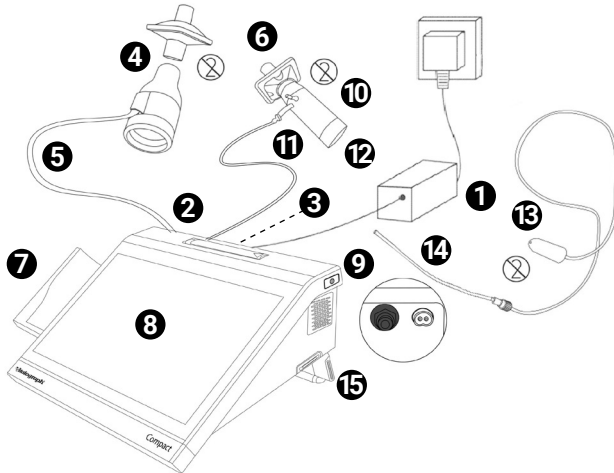

Figure 1. Main components of the COMPACT
4. If required, attach the Wifi dongle (16) into an available USB port on the back of the device (3) (see Figure 1).